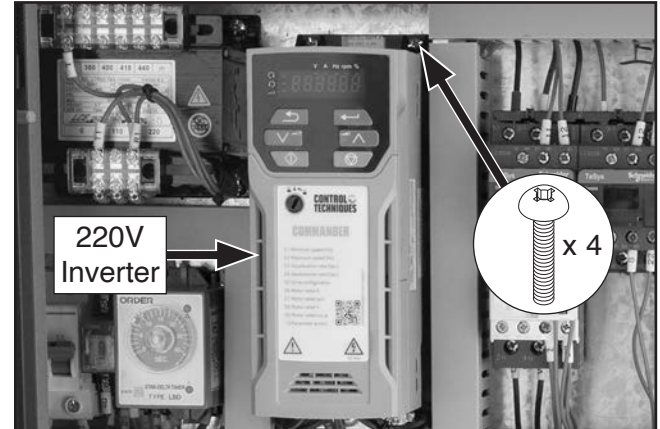

Figure 9. Location of 220V inverter.
3. Disconnect wires from 220V inverter, and loosen (4) Phillips head screws in top and bottom corners (see **Figure 9**), then remove inverter.